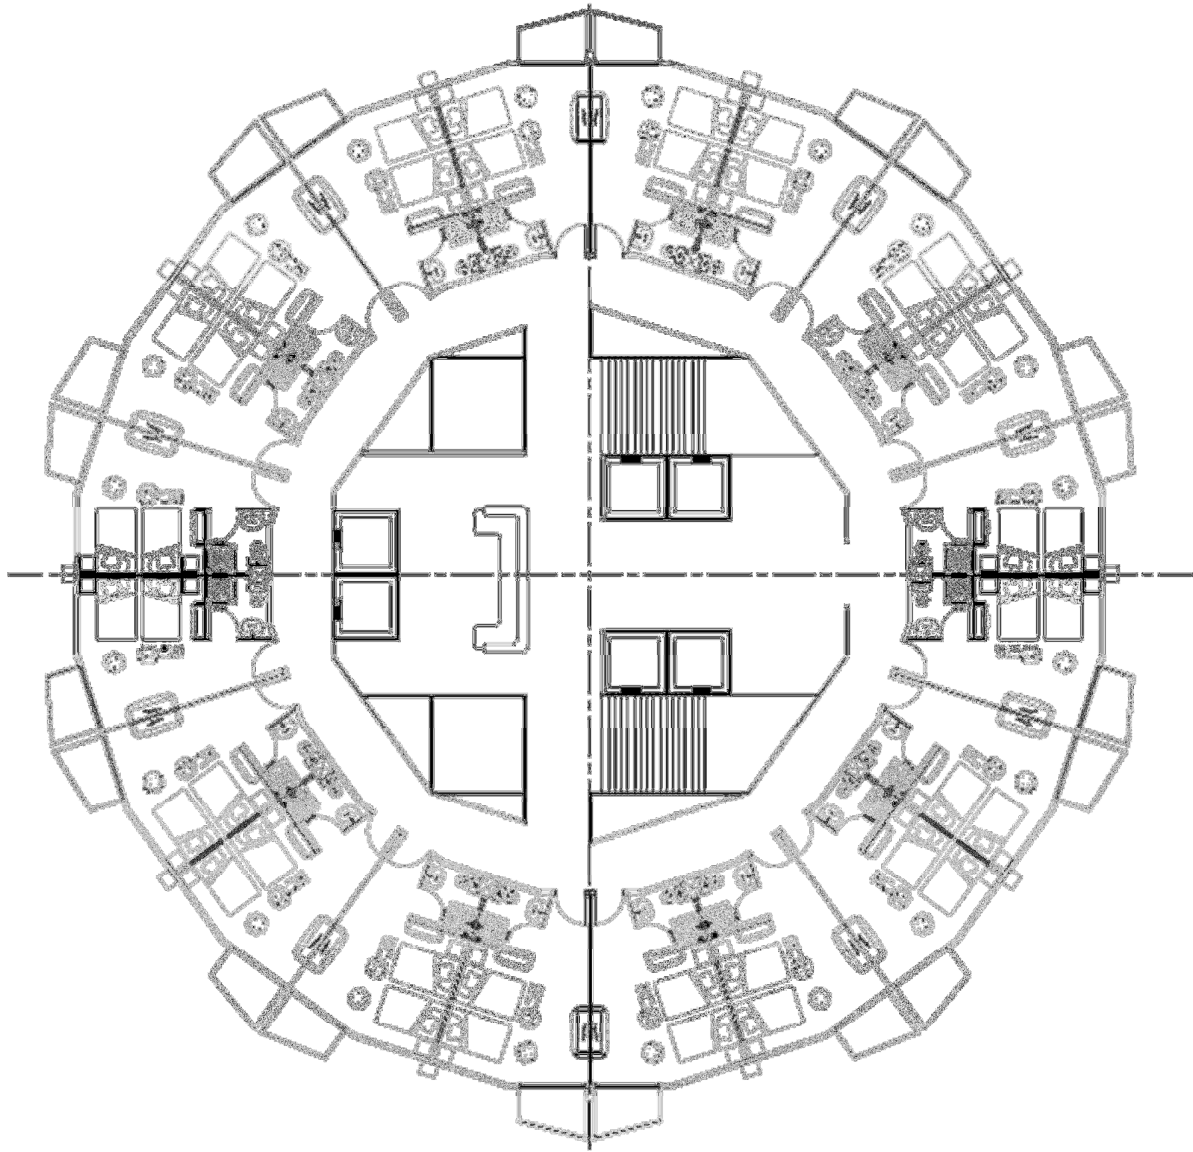

Figure 2: Typical Floor for Guest Rooms (starting from 1st floor up to 14th Floor) (Item c)
- c) *Design and Plot* a schematic drawing for the proposed automatic water sprinklers system and Fire Hose Cabinets system for the floor number 14th, which its architecture plan view is presented in **Figure 2**, as the hydraulically most remote floor, taking into consideration that that proposed sprinkler distribution could be used for all typical floors, using **side wall sprinklers for Guest Rooms** which are without reflected ceilings except the room entrance vestibules. However, **concealed pendant sprinklers** shall be used for room entrance vestibules, elevator lobbies, and service corridors in those typical floors, as per **NFPA13** requirements.
- 1- A Typical **Mall building** consists of 2 basements (**B1+B2**), Ground Floor (**G**), two Typical Floors (**1st + 2nd**), and the roof, as shown in **Figure 1**. Each of the Typical Floor (**G, 1st**, and **2nd** Floors) consists of 120 Typical shops each of Length (**L**) of 5 m and width (**W**) of 5 m. The corridors are double loaded with shops, and each corridor width is 10 m, as can be seen in **Figure 2**. These Shops are numbered by including the floor number plus numbers from 01 to 120. The floor contains four elevator lobbies, service corridors, IT rooms, and MDB rooms. The fire water tank and pump room will be located in 2nd basement floor (**B2**), as can be seen on Figure 1. Each Student is requested to Prepare his/her **Conceptual Design Report for the firefighting works for this Mall building** in not more than 10 pages, including the **hydraulic calculations for automatic water sprinkler system** to protect the highest floor (2nd floor) and to **include the following items, calculations and diagrams/drawings:**
- c) *Design and Plot* a **schematic drawing** for the proposed automatic water sprinklers system and Fire Hose Cabinets system for the 2nd floor, which its architecture plan view is double loaded corridors as presented in **Figure 2**, as the hydraulically most remote floor, taking into consideration that that proposed sprinkler distribution could be used for all typical floors, using **concealed pendant sprinklers (Ceiling mounted) for shops and corridors** which are with reflected ceilings, as per **NFPA13** requirements.
Figure 2: Most Remote Zone of Second Floor (Typical Floor) for Six Shops and the service corridor, in New Cairo Mall Building (starting from Ground floor up to 2nd Floor) (Item c)